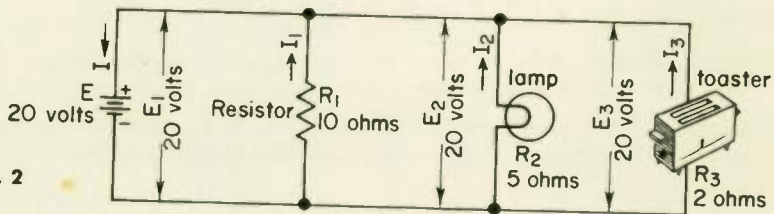

Fig. 2
3. In the diagram shown in Fig. 2, battery voltage E is applied across three circuit elements, a resistor, a lamp, and a toaster. I is the total current supplied by the battery. I_1 is the current flowing through the resistor R_1 ; I_2 is the current flowing through the lamp R_2 ; and I_3 is the current flowing through the toaster R_3 . If $E = 20$ volts, $R_1 = 10$ ohms, $R_2 = 5$ ohms, and $R_3 = 2$ ohms,